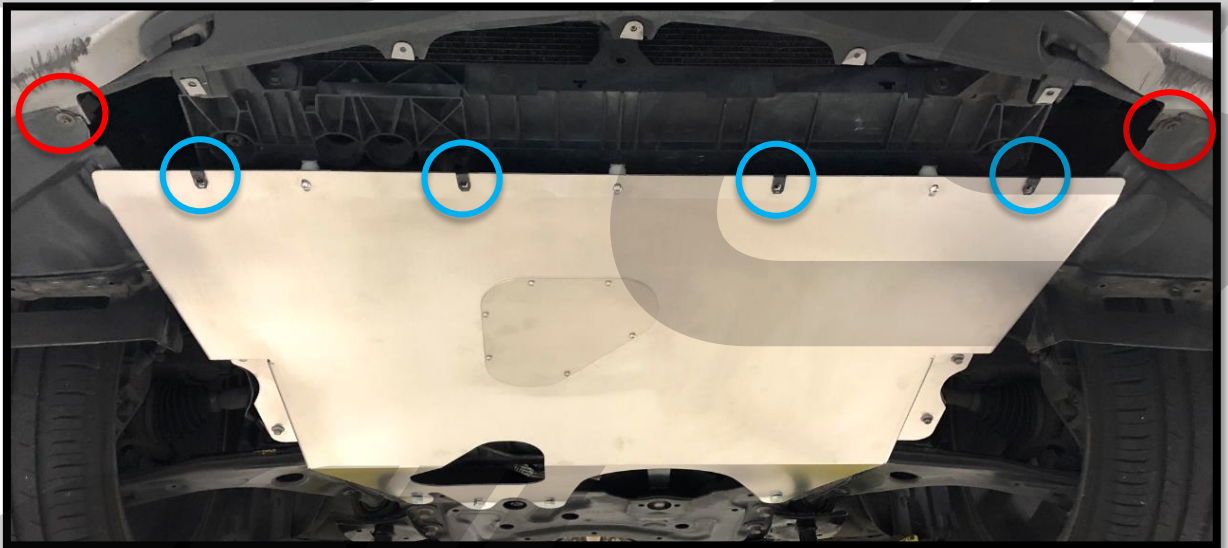

Figure 4a
- Reinstall the two (2) outermost 8mm bolts removed in step 1j. Locations circled in red in **Figure 4a**. These mounting locations are not used for the CS Skid Plate but the bolts must be reinstalled to ensure your plastic shielding stays secure.
- Install the four (4) supplied U-nuts onto the rear section of the CorkSport Skid Plate. They align with the four holes in the rear section of the plate with the threaded side on top of the skid plate. Locations shown circled in blue in **Figure 4a**.